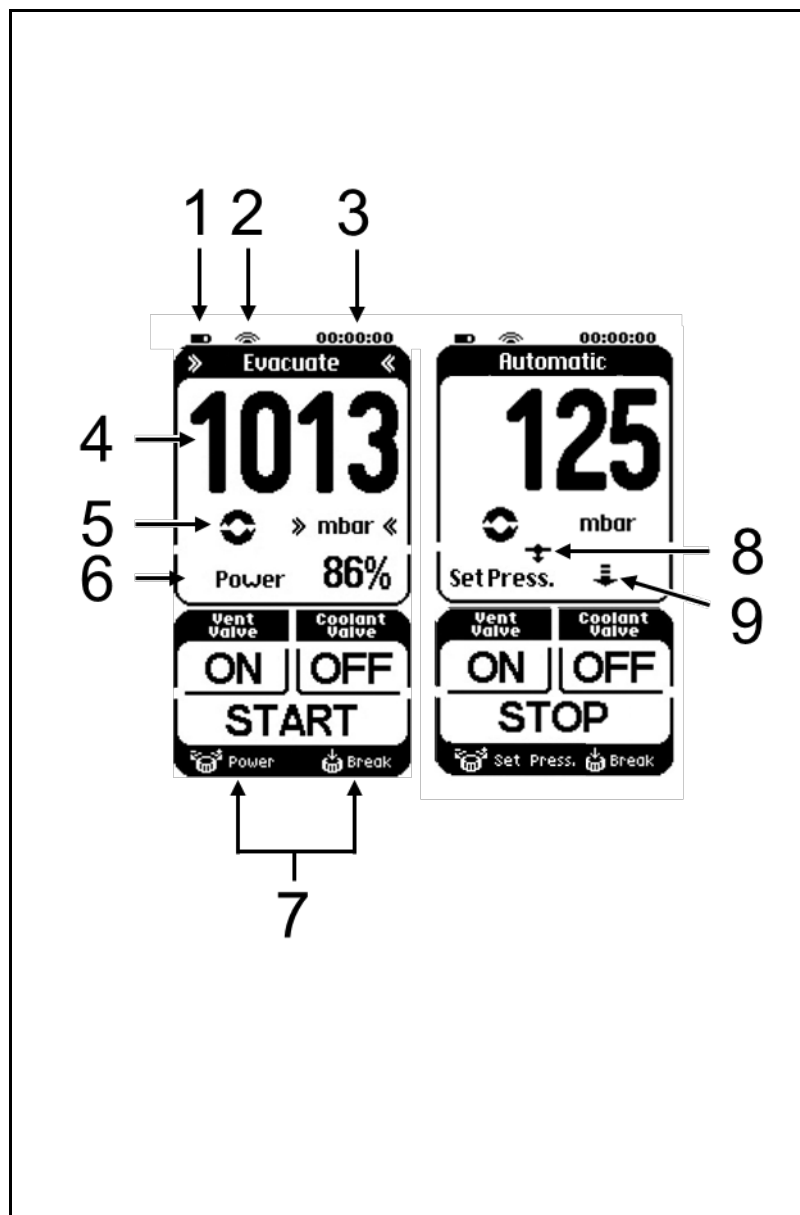

Fig. 10: Displays on the touchscreen
- Display of the most important process variables (Fig. 10, page 28);